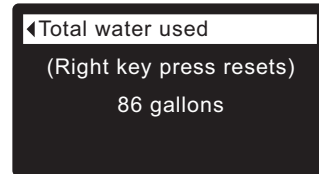

FIG. 71
6. The **Total water used** screen (See Figure 71) shows the volume of water used since it was last reset (it works like the trip odometer in a car). To reset the value to 0, press the RIGHT (▶) button while this screen is displayed.